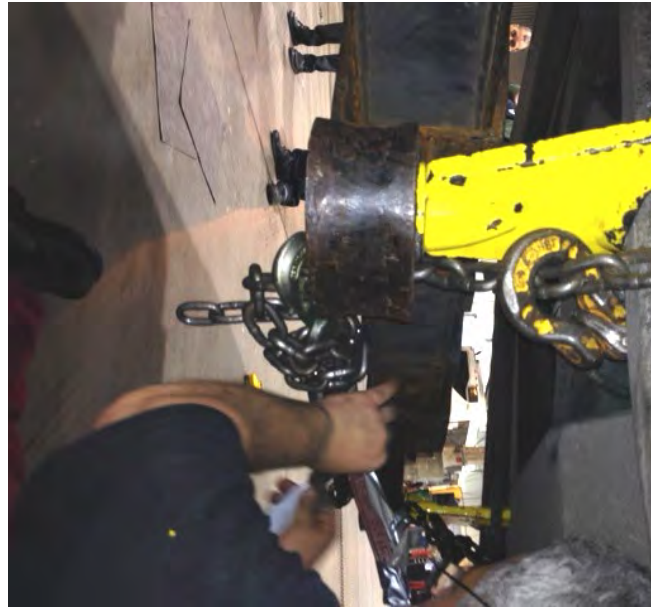

Figure 71
10. Install the choke chains. Tie the two choke chains together to secure the side members to the tow bar (Figure 71 & Figure 72). Take up any slack that may remain and maintain proper tension on chains.